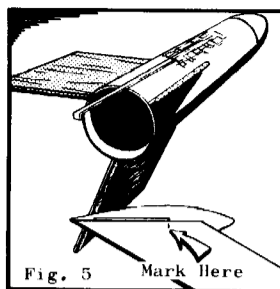

Fig. 5 Mark Here
8) Glue the main fins in place on the body tube. Align them carefully so they are perfectly parallel to the body and project straight away from it. When the glue has set on the fin-body joints place the fin-caps on the fin ends to check the fit but don't glue them yet. Mark the main fin at the leading edge of the ring slot as in Fig. 5. This will be the mark to which you will bring the fin-ring when installing it.